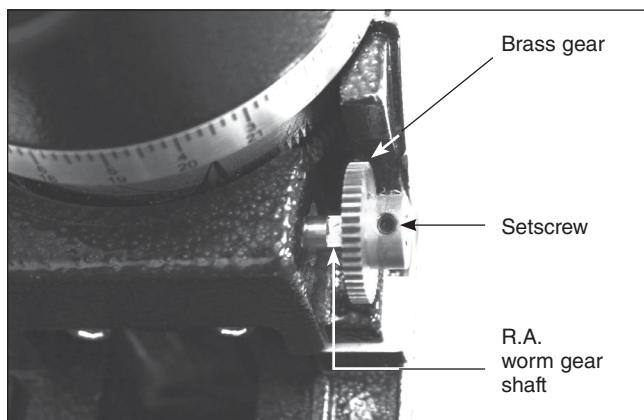

Figure 5. Correct orientation of brass gear for R.A. axis
4. Slide the geared end of one of the small brass gears onto the worm gear shaft so it resembles **Figure 5**. Rotate the small brass gear so that one of the setscrews will press against the flat part of the R.A. worm gear shaft. Secure the small brass gear by tightening the setscrews with the included 2mm hex key, but do not overtighten. You may have to make small adjustments to the gear's position in the following step to ensure proper gear engagement.